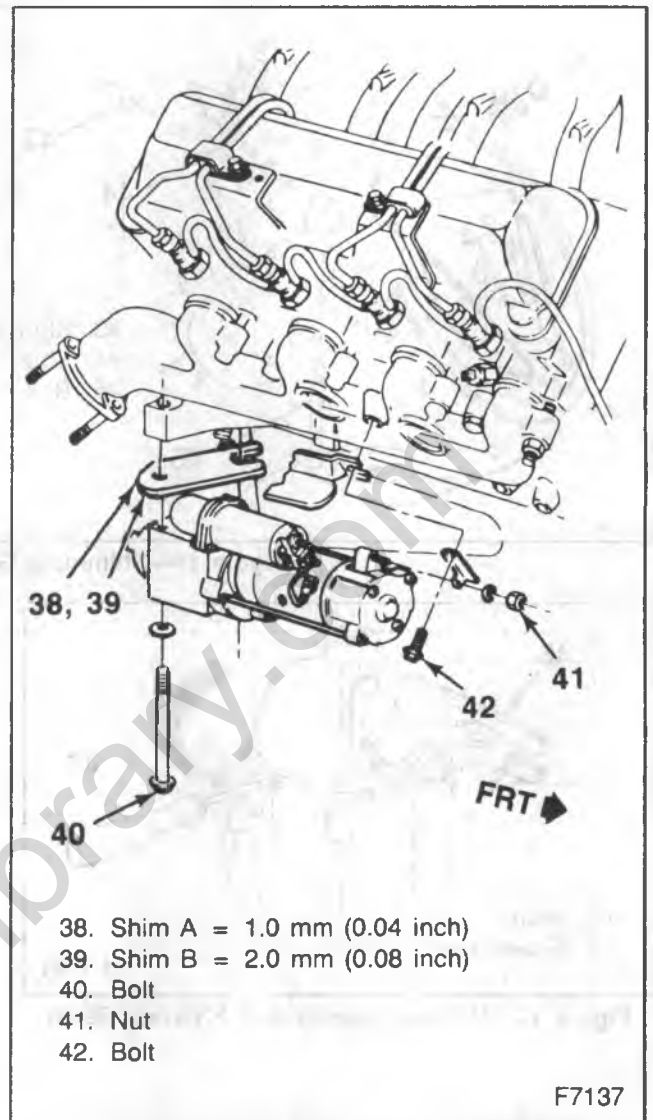

Figure 10—Shimming Diesel Engine Starter Motors
Refer to the starter noise diagnostic chart. Starter shims are shown in figures 10 and 11.
- Diesel engine (figure 10): Add shims as required. Total shim stack must not exceed 4.0 mm (0.016-inch). If starter shims are not available, washers made of shim stock can be used.